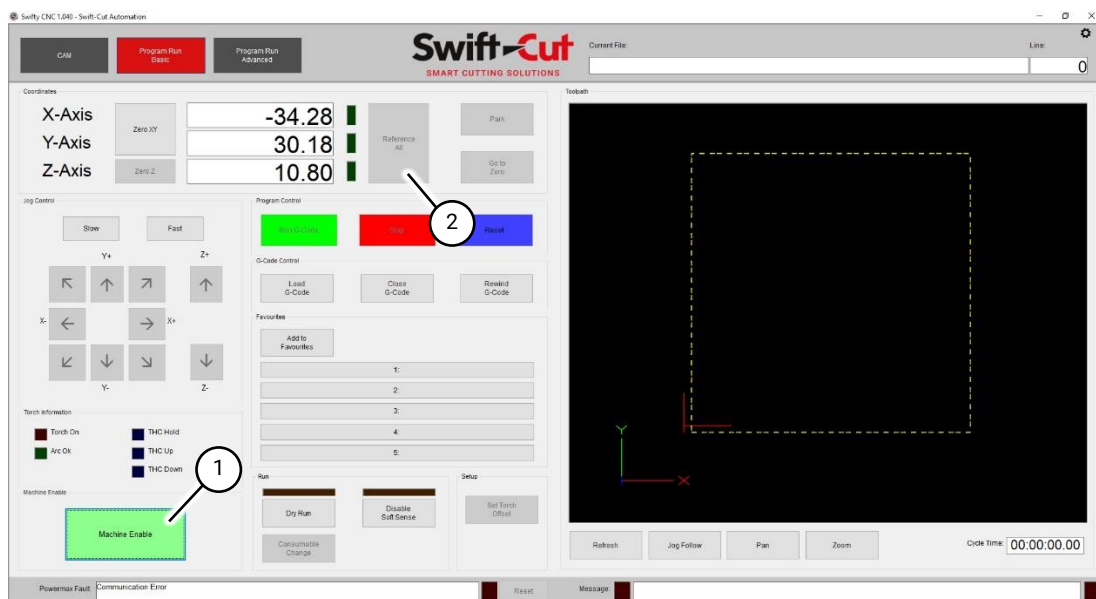

Fig 64 Swifty-CNC Program Run Basic screen
2. Press the 'Machine Enable' button (Fig 64 (1)). If the machine does not enable check the following:
3. Press the 'Reference All' button (Fig 64 (3)). This homes the machine to the rear left corner. This must be done prior to completing any other operation every time the Swifty-CNC software is opened or the machine is restarted.